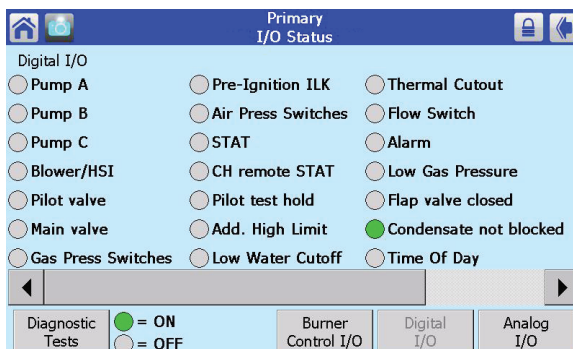

Fig. 130 – Digital I/O Screen
2. Press the Digital I/O button to look at functions where the functions are either “on” or “off.” See Fig. 130.